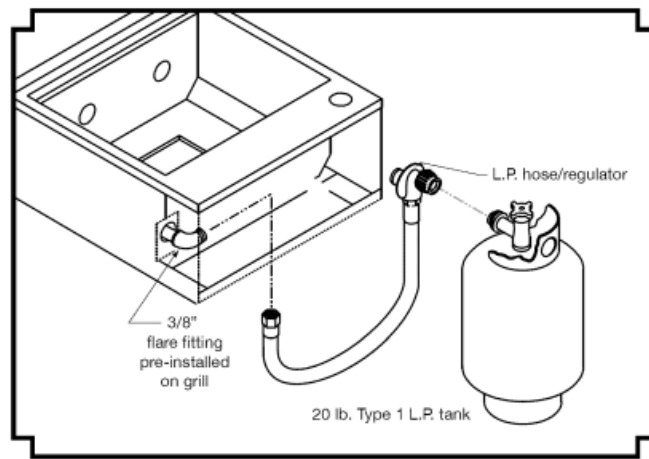

Figure 9-1 - Typical attachment to L.P. tank.
- Connect the 3/8"flare end of the L.P. hose to the brass adapter on the manifold (as shown in figure 9-1 ).